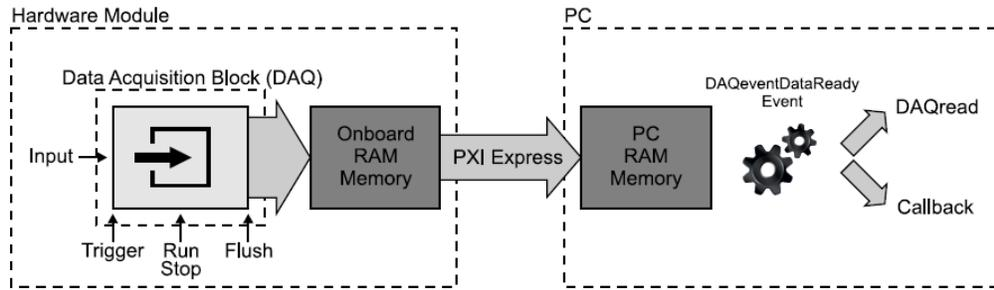

Figure 5: M31/M33XXA Digitizers words acquisition operation
The Data Acquisition (DAQ) is a powerful and flexible block which acquires incoming words and sends them to the user PC using dedicated DMA channels (Figure 5).
**Advanced:** Onboard memory and DAQpoints selection: The acquired words are first stored in a DAQ buffer located in the module onboard RAM and then sent to the PC RAM via the ultra-fast PXI Express bus (Figure 5 on the previous page) using dedicated DMA channels. This DAQ buffer, and therefore the minimum amount of onboard RAM needed for an application, is directly the size of the data array the user wants to receive in each DAQread or callback function call. This data array, called DAQdata, contains DAQpoints words. Therefore, its size is DAQpoints x 2 bytes/word (in the case of the M31/M33XXA Digitizers). The size of this DAQ buffer must be chosen according to two criteria: